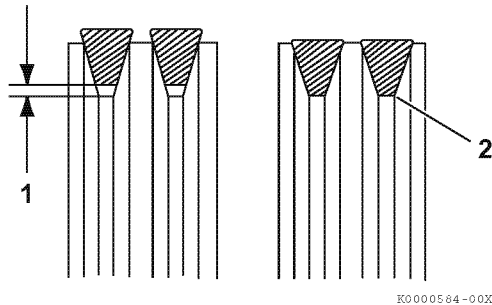

Figure 8-11
8. Inspect the condition of the V-belt. There must be clearance **(Figure 8-11, (1))** between the V-belt and the bottom of the pulley groove. If there is no clearance **(Figure 8-11, (2))** between the V-belt and the bottom of the pulley groove, replace the V-belt.